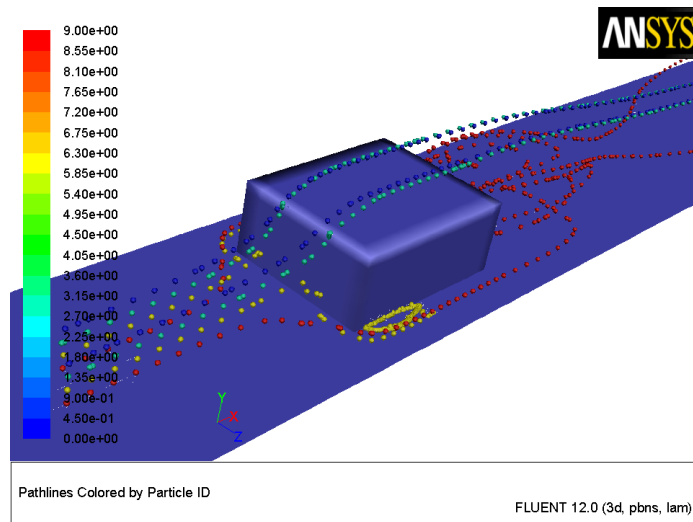

Figure 24.16: Sphere Pathlines Display
- (h) Rotate the display so that the flow field is in front and the wake of the chip is visible as shown in Figure 24.16.